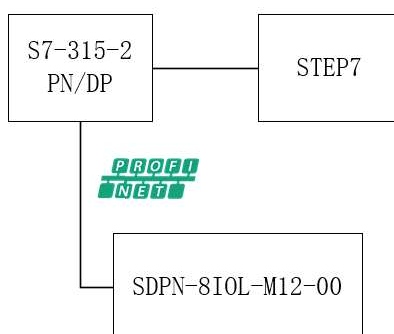

Figure 4-2-3-1 Communication connection diagram
1. The communication connection diagram is shown in Figure 4-2-3-1: